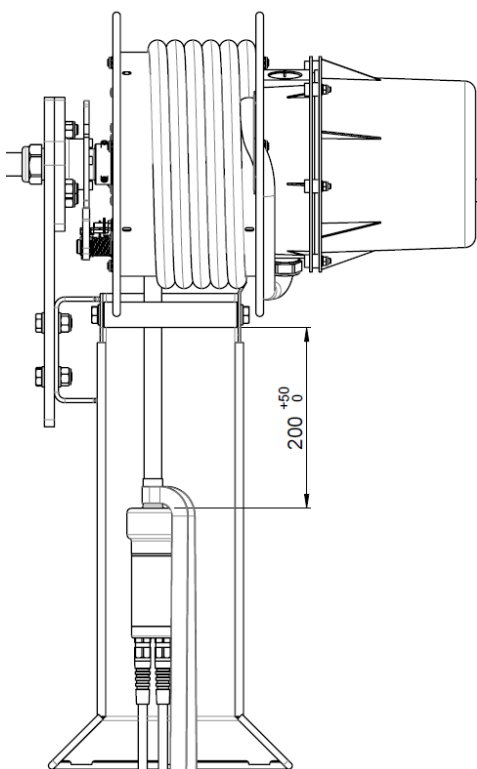

Fig. 6: Shutoff position of limit switches
The limit switch is preconfigured at the factory to the shutoff position in Fig. 6.
→ Pull out the reel cable about 200 mm so that the cable housing lies in the cable funnel as shown in Fig. 6. Secure the reel against winding.
- Unwind and then rewind the cable. Check shutoff position according to Fig. 6, repeat adjustment procedure if necessary.
- Tighten nut (1) on limit switch (2).